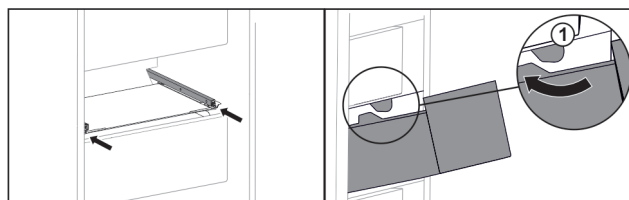

Fig. 45
- ▶ Guide the drawer around the stoppers Fig. 45 (1).